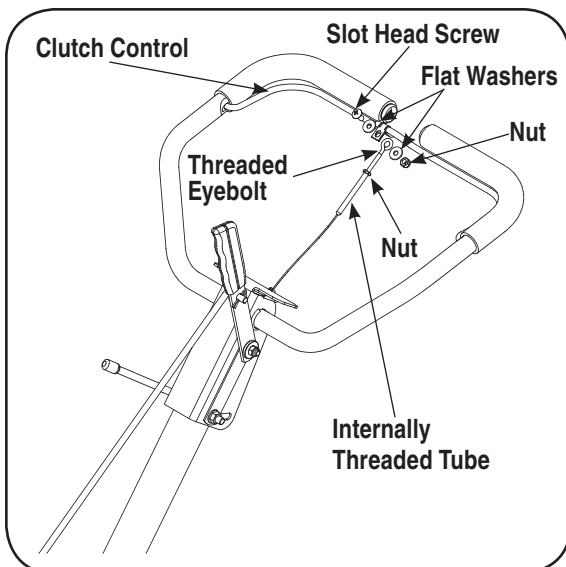

Figure 3-4
- Remove slot head screw, nut, and two flat washers from the clutch bail. See Figure 3-4.
- Thread eyebolt and nut removed earlier into the internally threaded tube at the end of the cable. Thread engagement should be about 3/4". Tighten nut against tube at end of cable. See Figure 3-4.